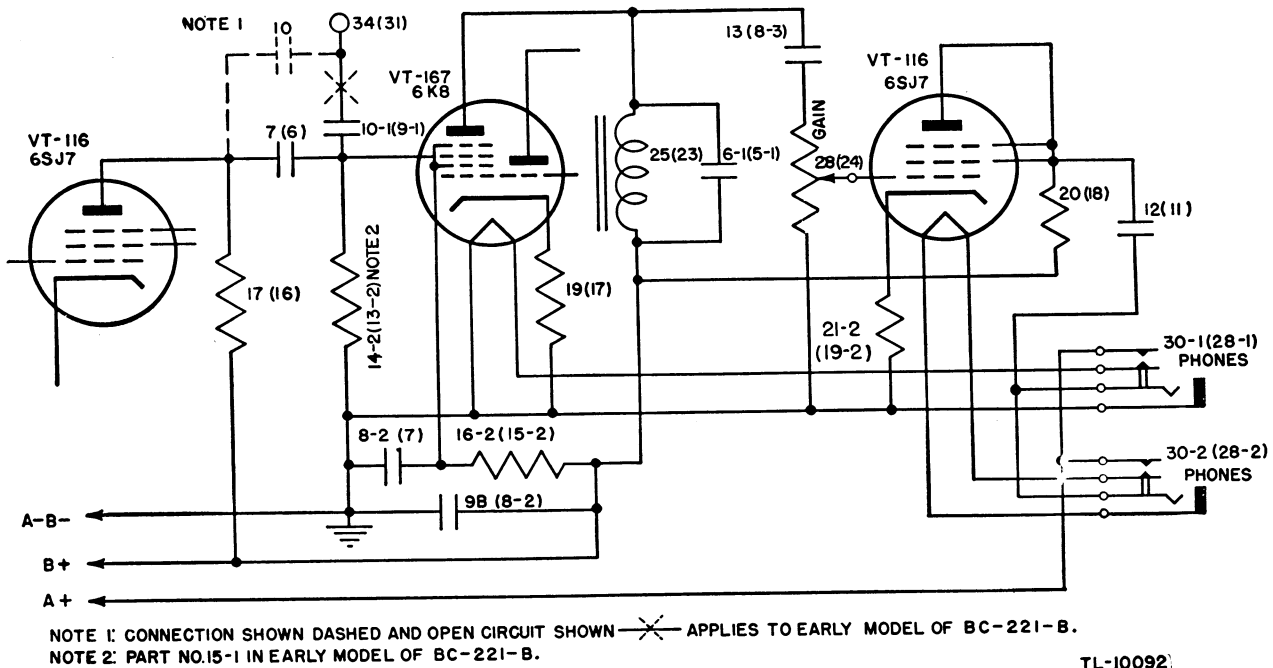

Figure 39. Frequency Meter BC-221-(2), functional diagram, detector and audio-amplifier circuits.
trol grid of the triode section, is used as a high gain screen grid detector with hexode grid No. 3 acting as the control grid. The joint action of grids No. 1 and 3 produces electron coupling of the signals on the two grids. (See fig. 39.) Resistor 14-2 (13-2), part No. 15-1 in the early model of the BC-221-B, is the detector tube grid leak. Resistor 16-2 (15-2) supplies voltage to the screen grid of Tube VT-167 (6K8). Capacitor 8-2 (7) bypasses the screen grid to ground. Capacitor 9B (8-2) is a bypass capacitance across the plate voltage. The r-f voltage developed across the load resistor 17 (16) in the